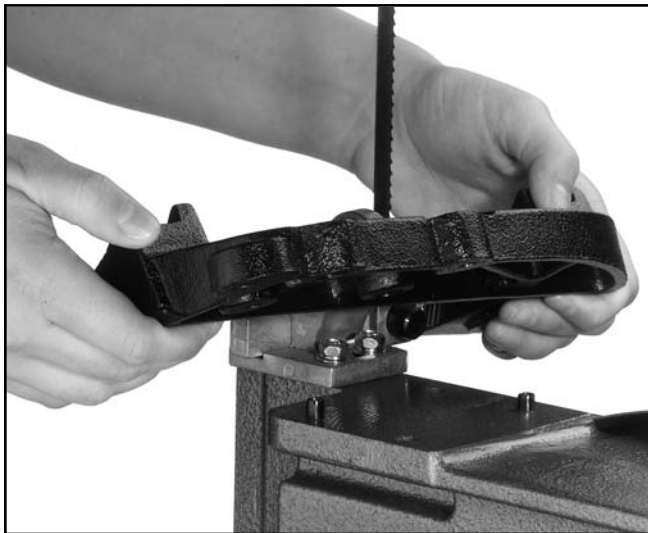

Figure 8. Aligning bracket on the pins.
2. Insert the alignment pin that positions the table support bracket to the bandsaw body. Place the table bracket on the body over the alignment pin and secure it to the bandsaw with the two bolts. **See Figure 8.**